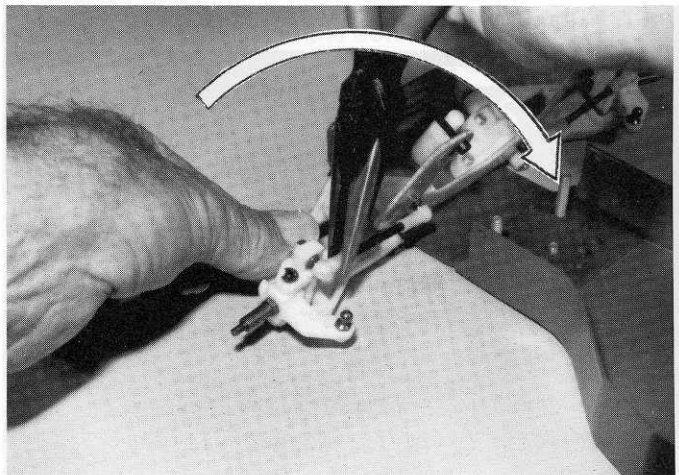

Fig. 16
□ Fig. 16 The rod ends can be removed quite easily from the balls by holding the rod end with a pliers, as shown, and twisting the rod end off the ball, as shown.